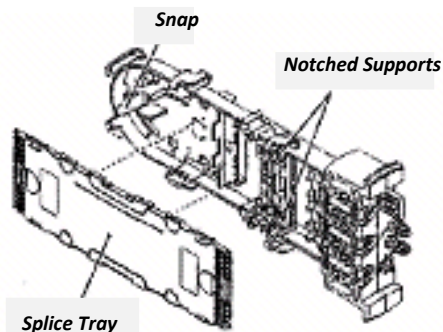

Figure 11a – Storing Fiber Trays
- 15.01** The center section is provided with 'L' shaped supports and a snap to retain the bottom splice tray. Additional trays are secured by a hook and loop strap provided with the closure. See **Figure 11a**.